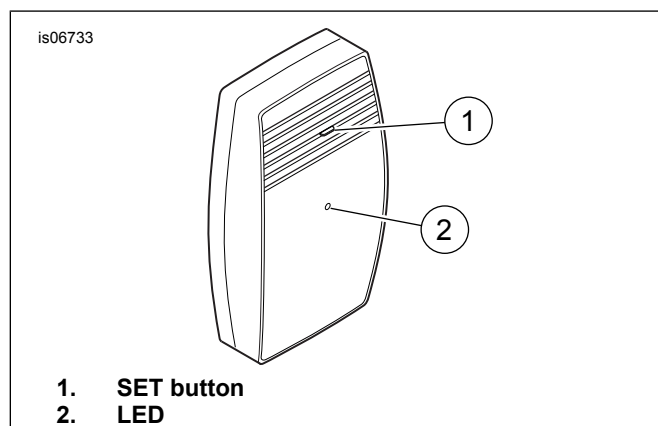

Figure 26. Garage Door Opener Receiver, Front View
- See Figure 26. Press and hold the SET button on the Harley-Davidson garage door opener **receiver**. The LED on the **transmitter** (on the vehicle) blinks continuously while the SET button is pressed.